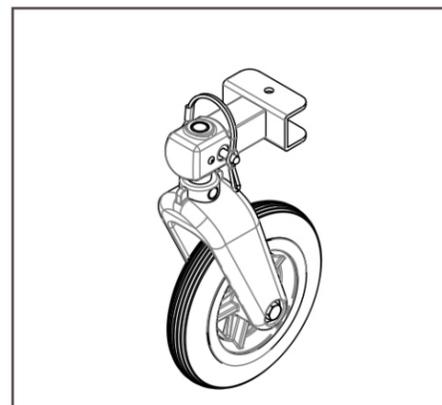

Figure 30
1. Install swivel wheel into wheel mounting bracket using quick release pin (Fig. 30).